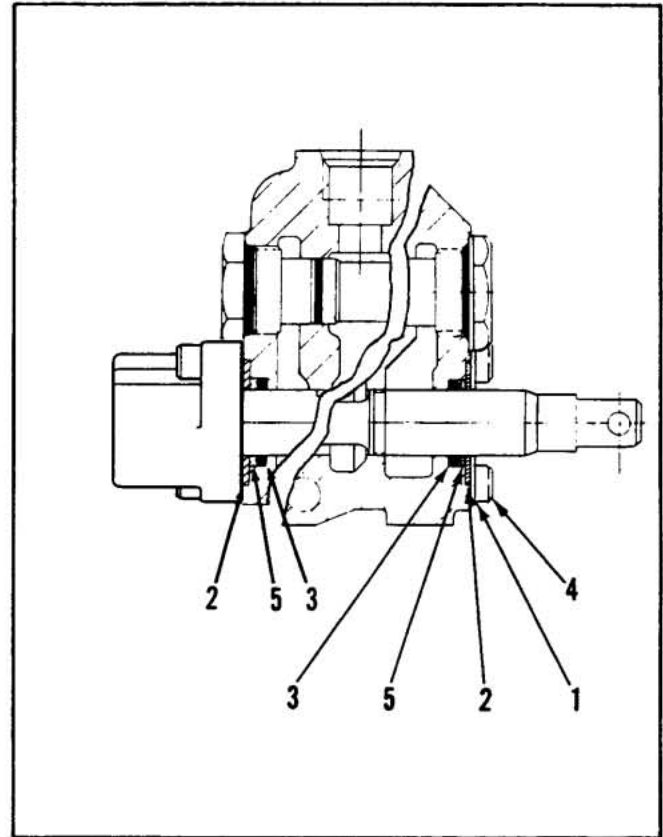

Figure 3-2. Spool Seal Assembly
Figure 3-2 shows spool assembly—less the complete handle assembly. When handle bracket is furnished, retainer plates and screws (items 1 and 4, Figure 3-2) are omitted. Seal assembly is retained by the handle bracket which will also retain the optional wiper seal.
3. Remove retainer plate (Item 1, Figure 3-2), retainer plate washers (Item 2), back-up washers (Item 5), and spool seals (Item 3).